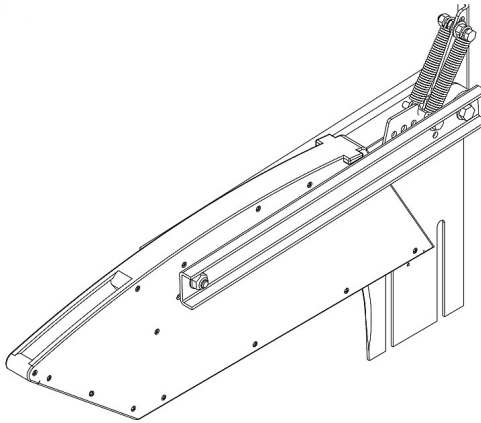

Fig. 13: Mount saw blade cover
Step 15: The cover (Fig. 13) is mounted ready for operation. Make sure that the cover is always supported by its own weight on the table top, but that the two screws are fastened without play.